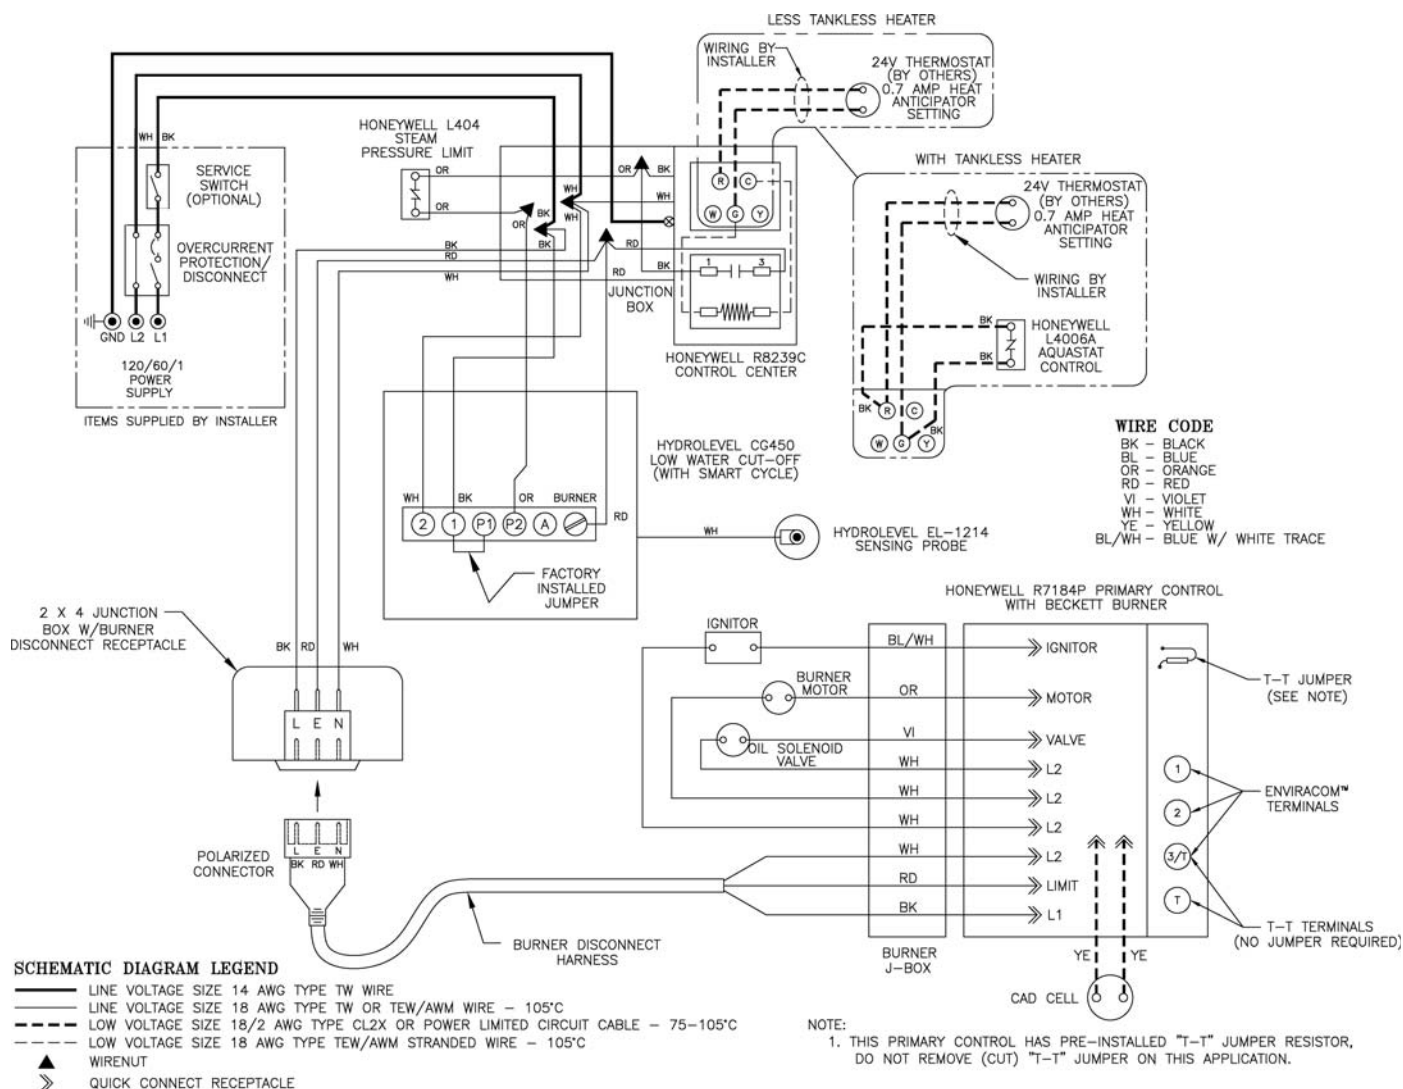

Figure 19: Wiring Diagram, Steam, Hydrolevel CG450 Probe LWCO for Beckett Burners
5. Use armored cable (BX) over all exposed line voltage wiring.
8. Wiring should conform to Figures 19 through 23F.
- Heat Anticipator in Thermostat should be set to match the requirements of the control to which it is connected. See Figures 19 thru 23F for desired system and heat anticipator setting. If system tends to overheat above the thermostat's temperature setting, reduce heat anticipator setting by .1 or .2 amps. If system tends to short cycle without reaching desired room temperature, increase heat anticipator setting by .1 or .2 amps.